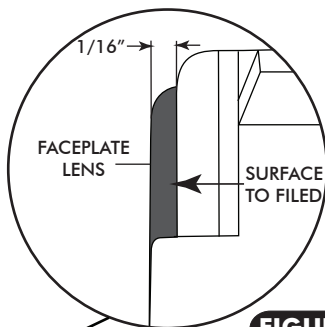

FIGURE 3a
- ❑ IF REQUIRED, FILE DOWN EACH SURFACE OF THE BACKING PLATE THAT FORMS THE LIMITING EDGE OF AN UNDERSIZED APERTURE. (SEE FIGURE 3a & 3b, BELOW), FOR EXAMPLES OF WHERE TO FILE ON EACH APERTURE. THE APERTURE WIDTH SHOULD BE $1/16"$.